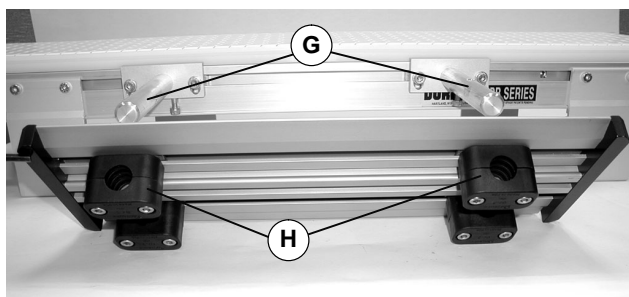

Figure 8
7. Space clamps (H of Figure 8) same distance apart as support bars (G).